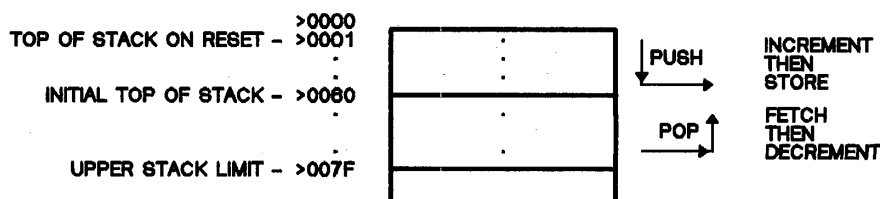

Figure 3-2. Example of Stack Initialization in the Register File
The **Stack Pointer (SP)** is an 8-bit CPU register that points to the top of the stack. The stack is physically located in the on-chip RAM, or RF. When the stack is used, the SP points to the last or top entry on the stack. During reset, the SP is loaded with >01. The SP is loaded from Register B (R1) via the LDSP instruction and initialized to any other value by executing a stack initialization program such as the one illustrated in Figure 3-2. This feature allows the stack to be located anywhere in the Register File. The SP is loaded into Register B via the STSP command. The SP is automatically incremented when data is pushed onto the stack and automatically decremented after data is popped from the stack.